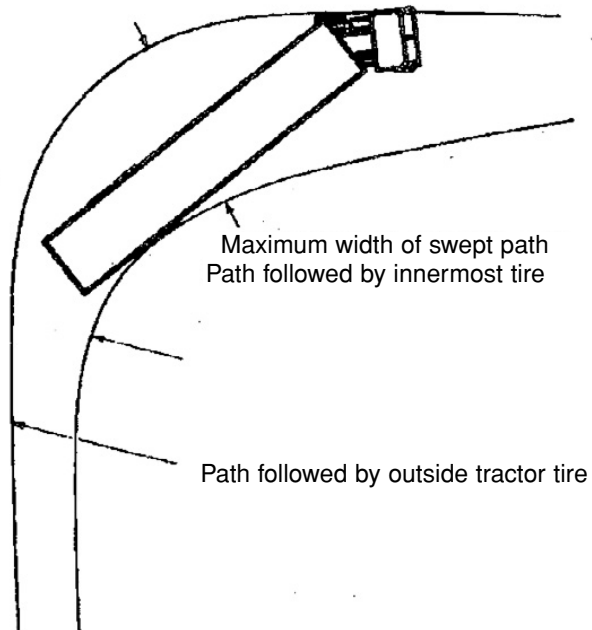
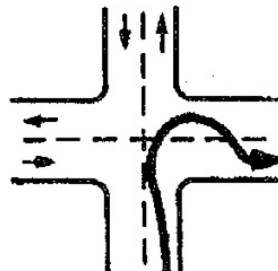

Figure 6-4
Figure 6-5
When a vehicle goes around a corner, the rear wheels follow a different path than the front wheels. This is called **offtracking** or "cheating." Figure 6-4 shows how offtracking causes the path followed by a tractor-semi to be wider than the rig itself. Longer vehicles will offtrack even more. The rear wheels of the powered unit (truck or tractor) will offtrack some, and the rear wheels of the trailer will offtrack even more. If there is more than one trailer, the rear wheels of the last trailer will offtrack the most. Steer the front end wide enough around a corner so the rear end does not run over the curb, pedestrians, other vehicles, etc. However, keep the rear of your vehicle close to the curb. This will stop other drivers from passing you on the right. This will stop other drivers from passing you on the right. If you cannot complete your turn without entering another traffic lane, turn wide as you **complete the turn** (Figure 6.5). This is better than swinging wide to the left before starting the turn because it will keep other drivers from passing you on the right. If drivers pass on the right, you might collide with them when you turn.
5. Why should you turn like it shows in Figure 6-5?